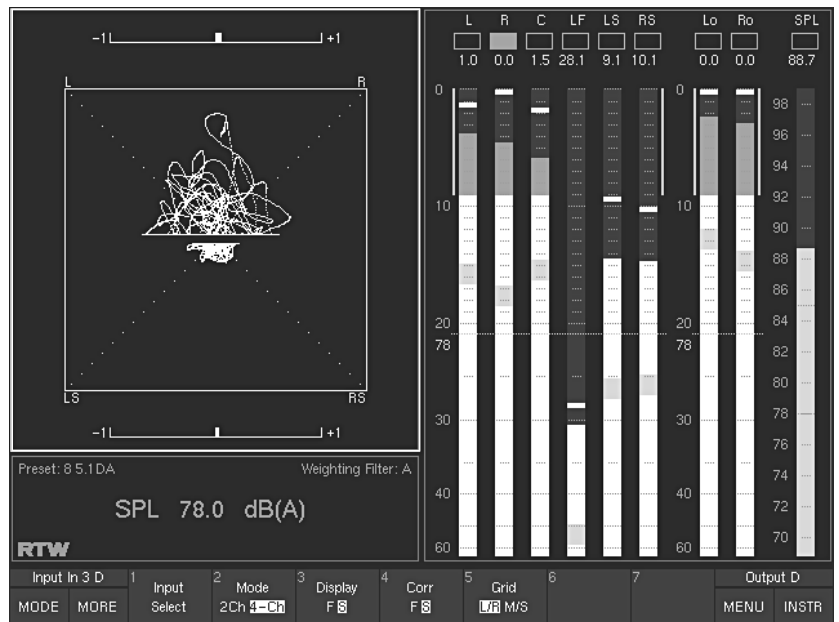
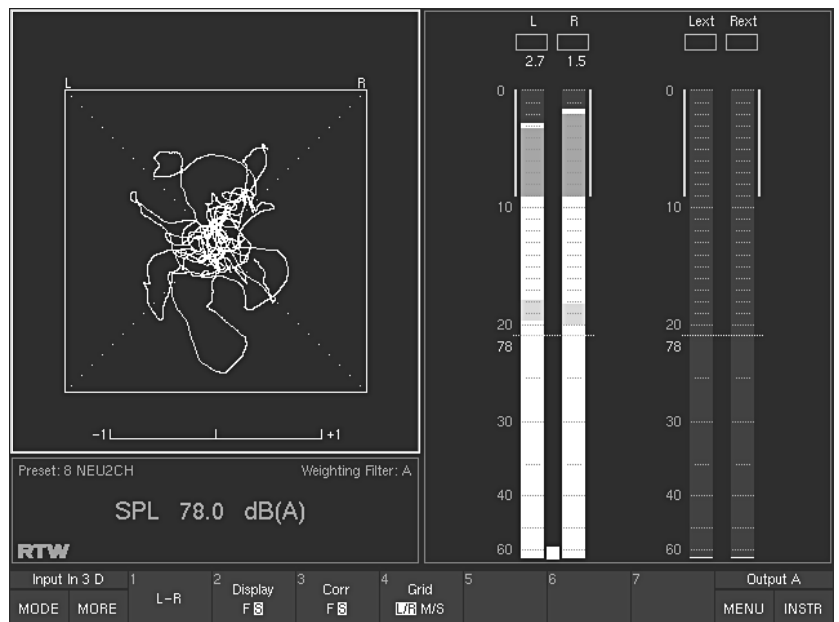

Fig. 3-6: Screen display with VSC instrument in Surround mode and 4-channel mode selected
Fig. 3-7: Screen display with VSC instrument in 2 Channel Stereo mode selected
(in Surround mode: Input Select, button/key 1, see Fig. 3-6
in 2 Channel Stereo mode: L - R, button/key 1, see Fig. 3-7)
Depending on the selected mode the buttons/keys get a different labelling (compare Fig. 3-6 with Fig. 3-7).
(in Surround mode: Mode, button/key 2, see Fig. 3-6)
(in Surround mode: button/key 3, see Fig. 3-6
in 2 Channel Stereo mode: button/key 2, see Fig. 3-7)
(in Surround mode: button/key 4, see Fig. 3-6
in 2 Channel Stereo mode: button/key 3, see Fig. 3-7)
(in Surround mode: button/key 5, see Fig. 3-6
in 2 Channel Stereo mode: button/key 4, see Fig. 3-7)